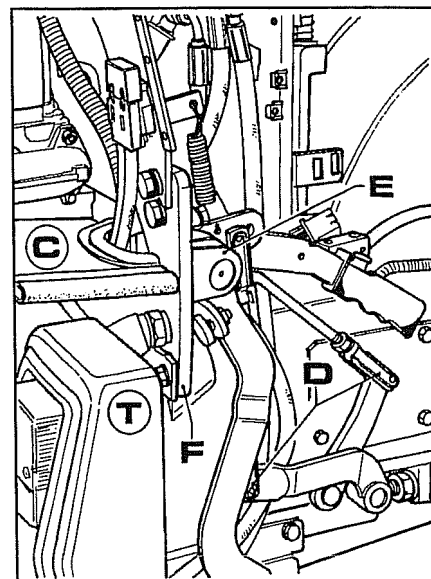

Fig. 15
15. Remove guard **C**, disconnect forks **D** and then separate mounting **E**, complete with clutch pedal and lever, from flange **F** in Fig. 15.